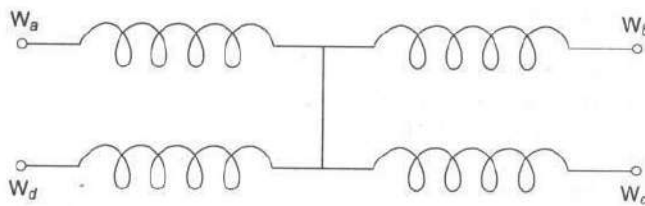

Fig.2 Winding arrangement of a stepper motor.
- ☐ Fig.2 shows a typical winding arrangement of the stepper motor.